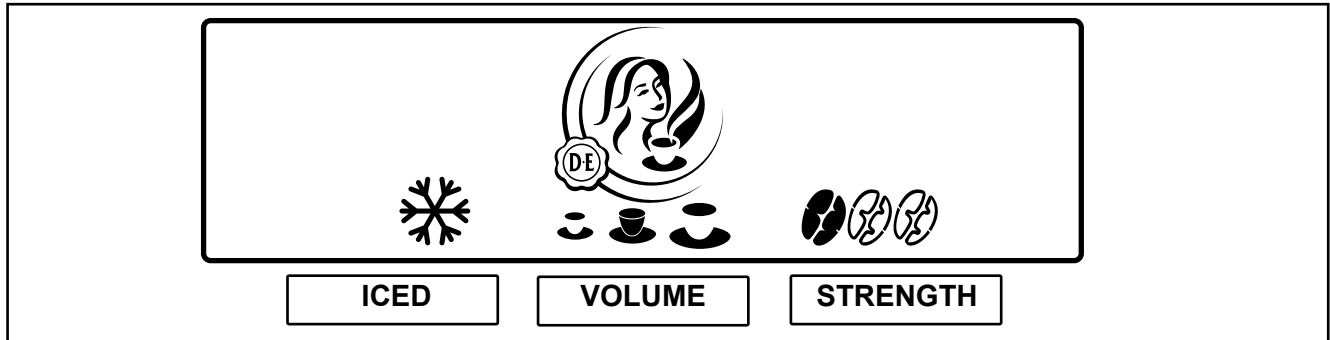

Fig. 15
Your dispenser supports preselection options. The service technician may have activated these preselection options during installation. When the preselection button is pressed, the following preselection options are shown on the display (fig. 15):
2. Press the preselection button «ICED» to activate this preselection. The icon for iced is displayed (fig. 15).
2. Press the preselection button «VOLUME» to activate this preselection. Three cup icons (small - medium - large) are displayed (fig. 15).